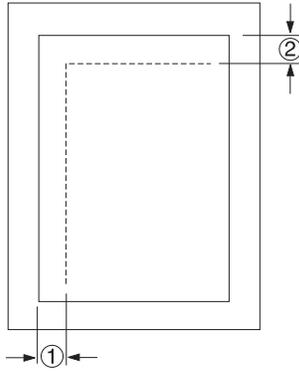

Figure 20. LINEONE Coordinates
“Defining Logical Page Size” on page 34 shows how to define the size of a logical page. The next two examples show you how to position the first line of data inside the logical page by using the LINEONE subcommand. This subcommand position is relative to the logical page origin, as shown in Figure 20 on page 36. The two coordinates, (1) and (2), of the LINEONE parameter define the starting point for the first line of text.